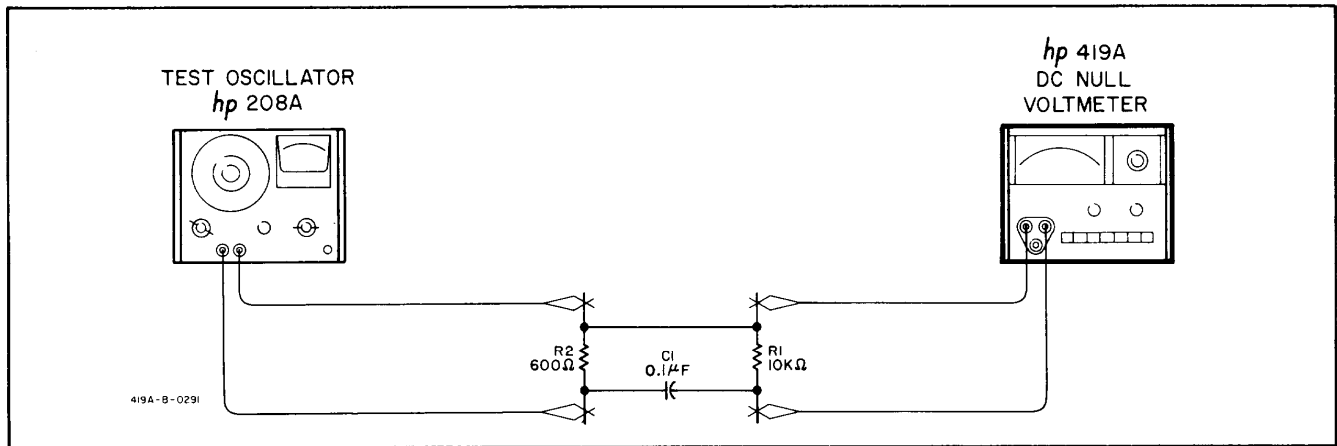

Figure 5-3. Superimposed AC Rejection Performance Test Setup
5-16. The superimposed ac rejection test setup is illustrated in Figure 5-3. An oscillator (-hp- Model 208A), a 600 Ω resistor (-hp- Part No. 0727-0081), a 10 kΩ resistor (-hp- Part No. 0684-1031), and a 0.1 μF capacitor (-hp- Part No. 0170-0085) are required for this test.
- Connect test setup illustrated in Figure 5-3; do not connect oscillator.